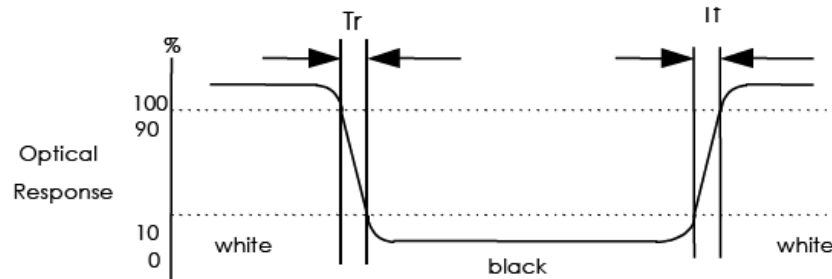

FIG. 2 Measuring method for Contrast ratio, surface luminance, Luminance uniformity , CIE (x, y) chromaticity
Note 1. Contrast Ratio(CR) is defined mathematically as For more information see FIG 2.
Note 2. Surface luminance is the LCD surface from the surface with all pixels displaying white. For more information see FIG 2.
Note 3. The uniformity in surface luminance , δ WHITE is determined by measuring luminance at each test position 1 through 5, and then dividing the maximum luminance of 5 points luminance by minimum luminance of 5 points luminance. For more information see FIG 2.